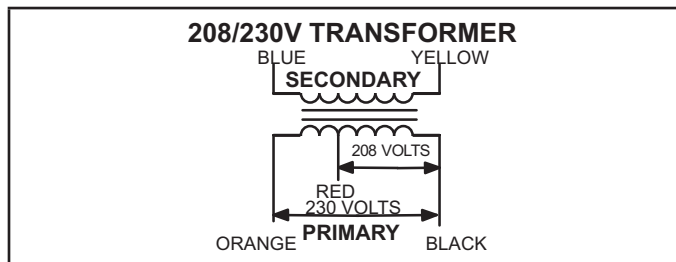

FIGURE 1
All ELS models use a single line voltage to 24VAC transformer mounted in the control box. Transformer T1 supplies power to control circuits in the ELS unit. The transformer is rated at 70VA and is protected by a 3.5 amp circuit breaker (CB8). CB8 is internal to the transformer. The 208/230 (Y) voltage transformers use two primary voltage taps as shown in figure 1, while 460 (G) and 575 (J) voltage transformers use a single primary voltage tap. T18 is identical to T1 used in ELS120, 150, 180 and 240 and is protected by internal circuit breaker CB18.